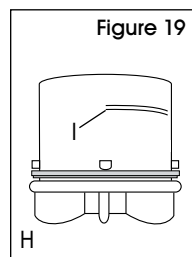

Figure 19
2. Turn cap (H) upside down to serve as a measuring cup. (See Figure 19)